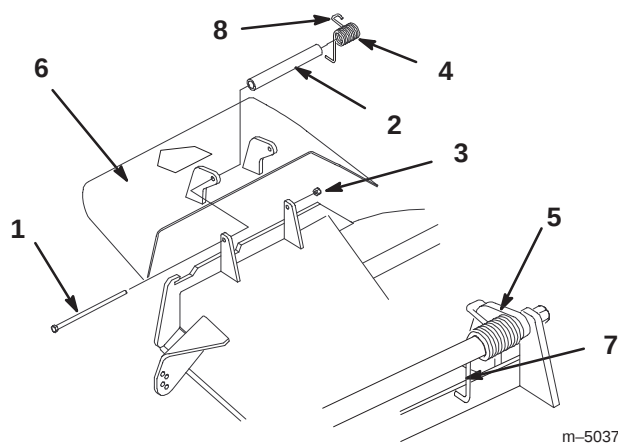

Figure 72
1. Remove the locknut, bolt, spring and spacer holding the deflector to the pivot brackets (Fig. 72). Remove damaged or worn grass deflector.
Note: Make sure the L end of spring is installed behind deck edge before installing the bolt as shown in figure 72.
3. Install bolt and nut. Place J hook end of spring around grass deflector (Fig. 72).